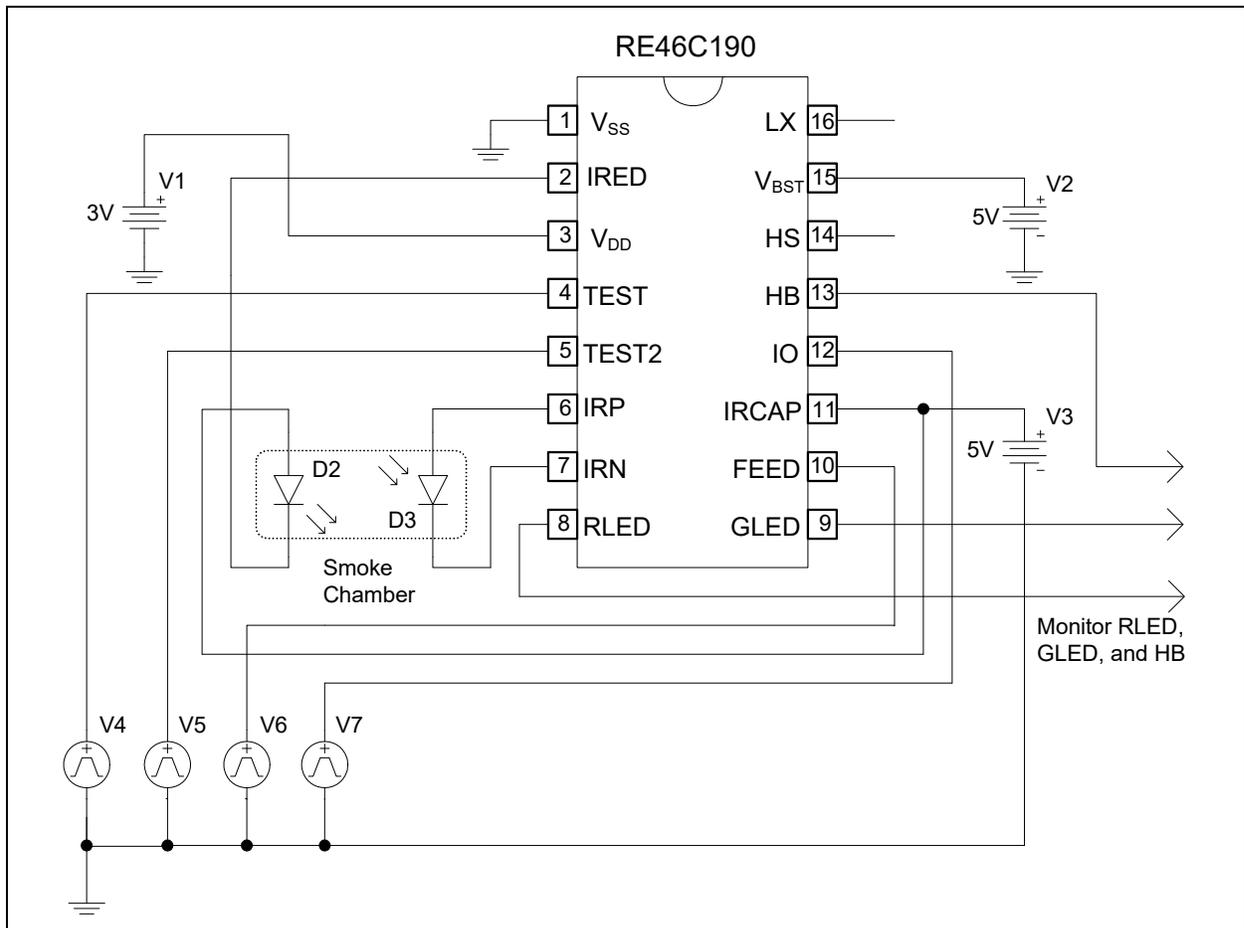
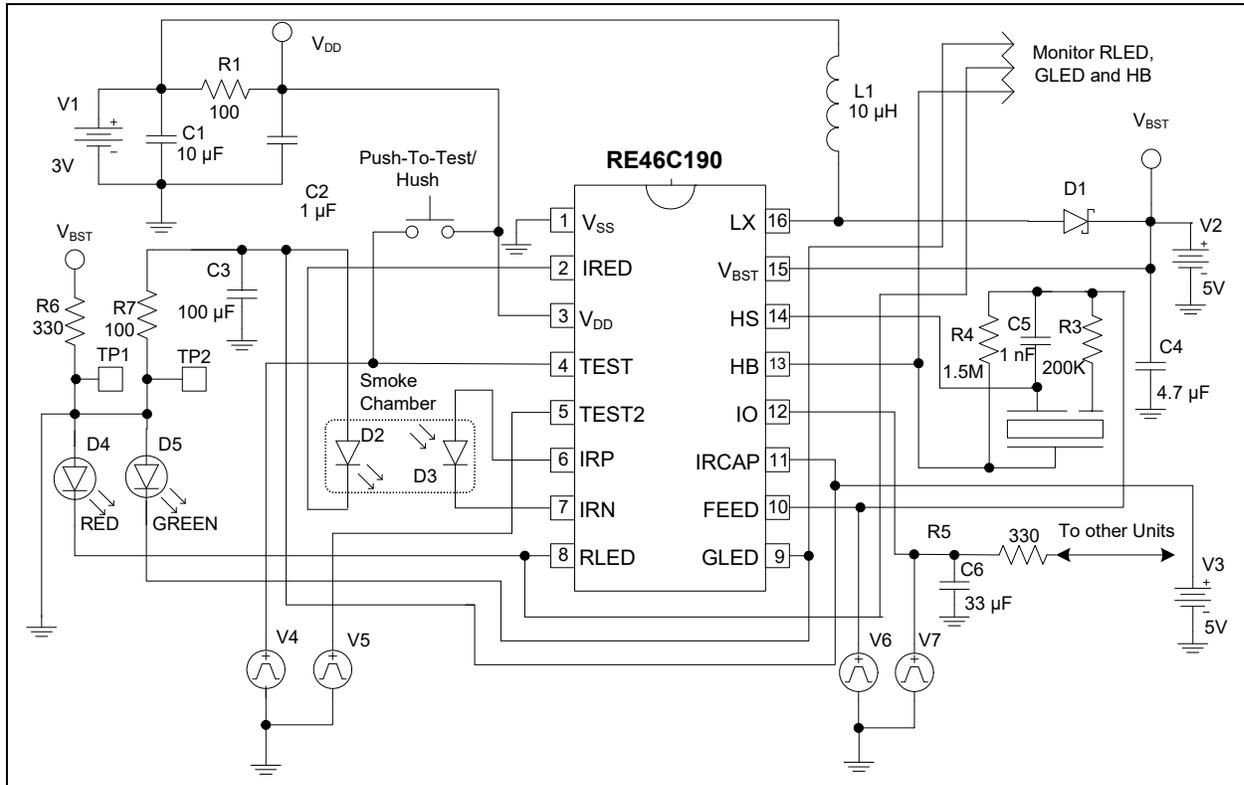

FIGURE 4-1: Nominal Application Circuit for Programming.
FIGURE 4-3: Circuit for Programming in the Typical Application.
1. Power up with bias conditions as shown in Figure 4-1. At power-up TEST = TEST2 = FEED = IO = V_{SS}.
As an alternative to Figure 4-1, Figure 4-3 can be used to program while in the application circuit. Note that in addition to the five programming supplies, connections to V_{SS} are needed at TP1 and TP2.
1. Power-up with the bias conditions shown in Figure 4-1.
1. Set up the application as shown in Figure 4-1.